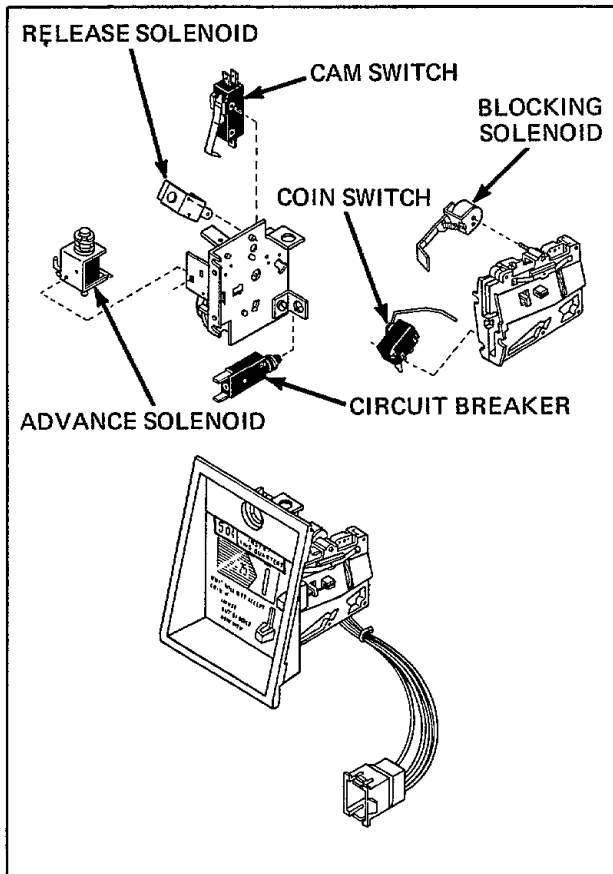

Figure 2
NOTE: Refer to *Figure 2* for accumulator coin drop assembly sequence.
- (1) Install coin switch, *Figure 2*, so switch “clicks”